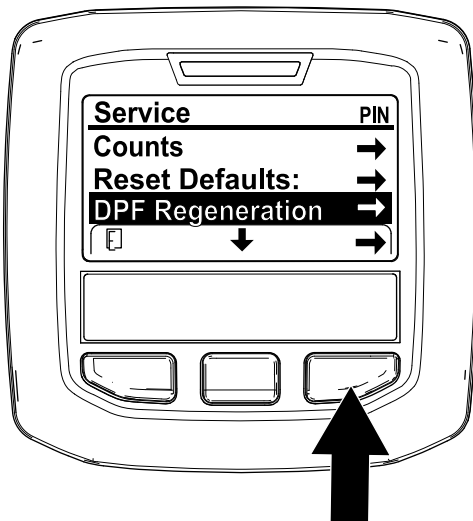

Figure 69
1. Access the Service menu, press the center button to scroll down to the DPF REGENERATION option (Figure 69).
2. Press the right button to select the DPF Regeneration entry (Figure 69).